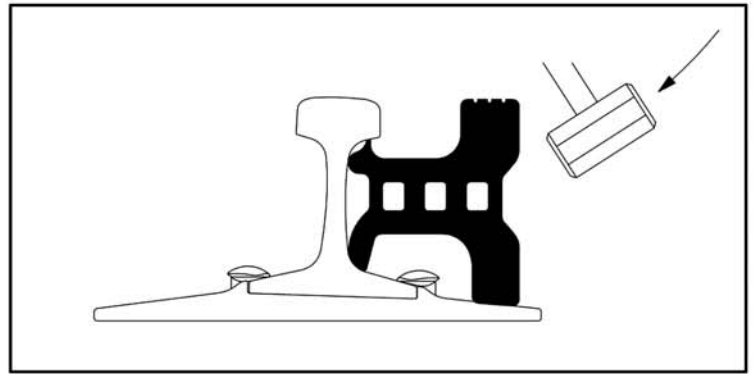

Figure 1
- 1** Place and seat Rubber Interface into web of rail with a sledge hammer (Fig. 1)